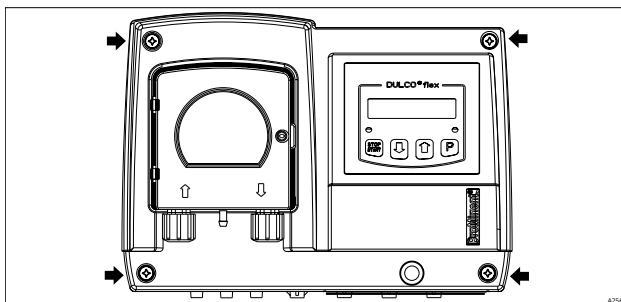

Fig. 7: 4 screws (arrows) on the upper part of the housing
2. ➤ Loosen the 4 screws on the upper part of the housing, *Fig. 7*.